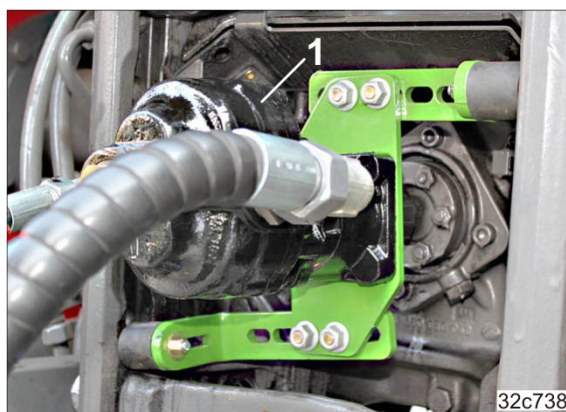

Fig. 163
4. Uncouple the hydraulic pump (Fig. 163/1) from the tractor's PTO shaft. The hydraulic pump is equipped with a QC fastener.